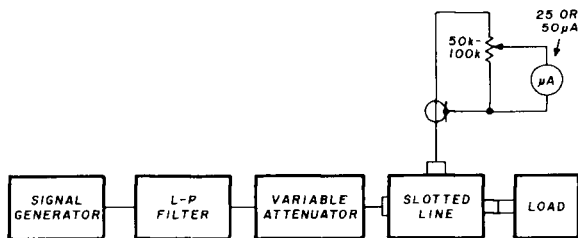

fig. 5. Equipment set-up for measuring *swr*, using a microammeter for an indicator. The signal generator does not have to be modulated in this arrangement.
If an *swr* indicator is not available, or if the signal generator is *unmodulated*, connect the equipment as shown in **fig. 5**, leaving the load initially disconnected. Then proceed as follows:
4. *Reference Data for Radio Engineers*, 6th Edition, Howard W. Sams & Co., Inc., Indianapolis, Indiana, Chapter 24, figures 5 and 6.